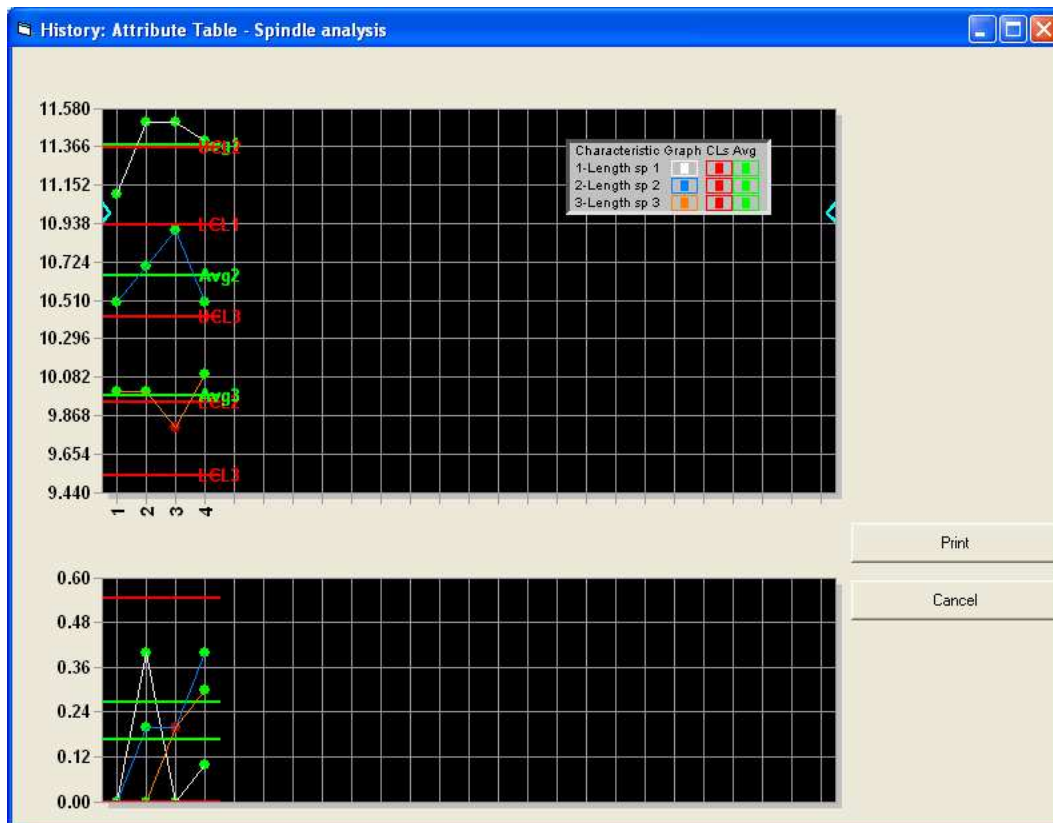

Figure 4: Multiple chart report
- Multiple chart screens (See figure 4)
- Multiple readings per chart (like figure 4)